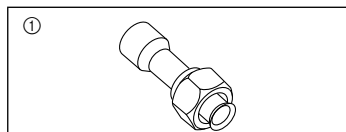

Fig. 1-1
1.6. Accessories of outdoor unit (Fig. 1-1)